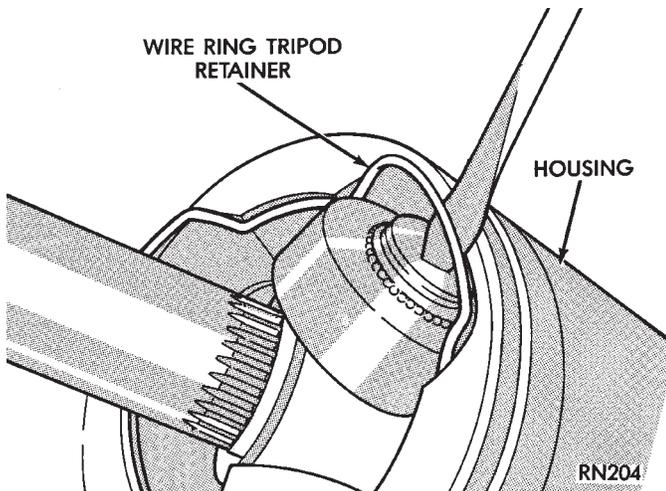

Fig. 2 Separate Tripod From Housing S.S.G.
After removal of driveshaft assembly from vehicle. Identify the supplier of the driveshaft assembly (See Fig. 2) under Driveshafts Identification.
(2) Depending on the type of C/V joint assembly, separate the C/V joint housing from the tripod as follows:
S.S.G. Utilizes a wire ring tripod retainer which expands into a groove around the top of the housing. Use a flathead screwdriver to pry the wire ring out of the groove and slide the tripod from the housing (Fig. 2). **Do not mangle or destroy retainer during disassembly.**